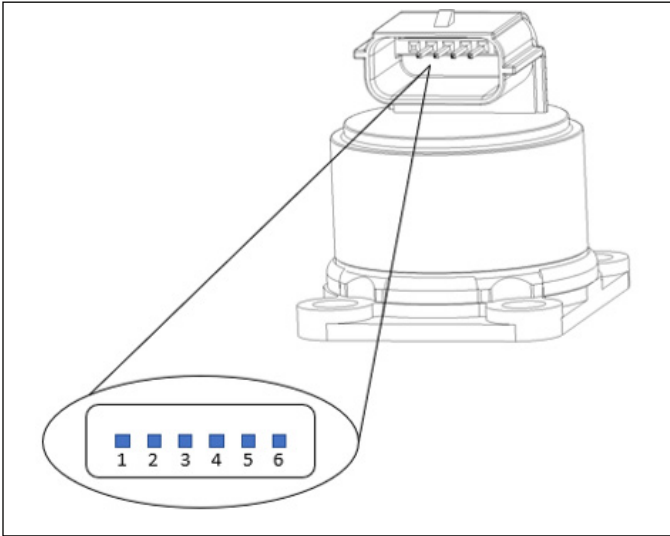

**Figure 13 – Steering Assist ECU Connector Pins**
See Figure 13 and refer to Table 3 for the connector pins for the Steering Assist Electronic Control Unit (ECU).
1. Align the gasket and pressure sensor with the half circle cut-out in each part. See Figure 13.
2. Align the pressure sensor and gasket on the bearing cap. See Figure 13.
3. Hand start and torque the front right and back left pressure sensor bolts to 13-16 ft-lb (17.6-21.7 N•m) with the 5-mm hex (Allen®) bit. See Figure 13.